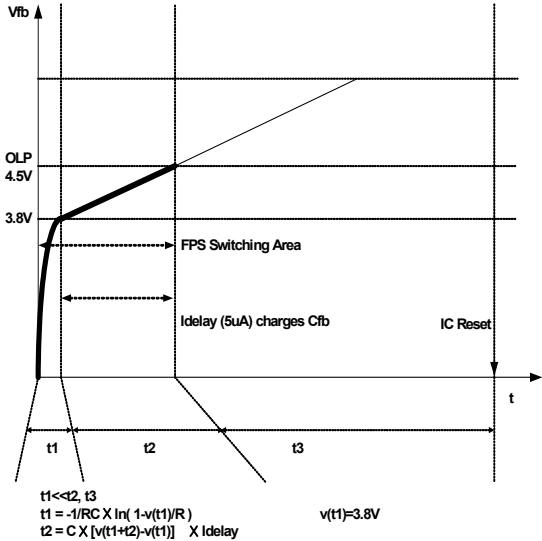

Figure 8. Over Load Protection Delay
**4.1 Over Load Protection (OLP) :** Overload is a load current that exceeds a pre-set level due to an abnormal situation. If this occurs, the protection circuit should be triggered to protect the SMPS. It is possible that a short term load transient can occur under normal operation. If this occurs, the system should not shut down. In order to avoid false shut-downs, the over load protection circuit is designed to trigger after a delay. Therefore the device can discriminate between transient overloads and true fault conditions. The device is pulse-by-pulse current limited and therefore, for a given input voltage, the maximum input power is limited. If the load tries to draw more than this, the output voltage will drop below its set value. This reduces the opto-coupler LED current, which in turn, will reduce the photo-transistor current. Therefore, the 400uA current source will charge the feedback pin capacitor, Cfb, and the feedback voltage, Vfb, will increase. The input to the feedback comparator is clamped at around 3.8V. Therefore, once Vfb reaches 3.8V, the device is switching at maximum power. At this point the 400uA current source is blocked and the 2.5uA source continues to charge Cfb. Once Vfb reaches 4.5V, switching stops. Therefore the shutdown delay time is set by the time required to charge Cfb from 3.8V to 4.5V with 2.5uA, as shown in Figure 8.